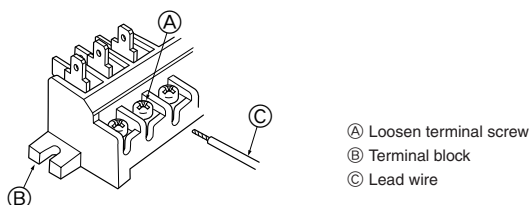

Fig. 7-6
- Use care not to make mis-wiring. (Fig. 7-6)